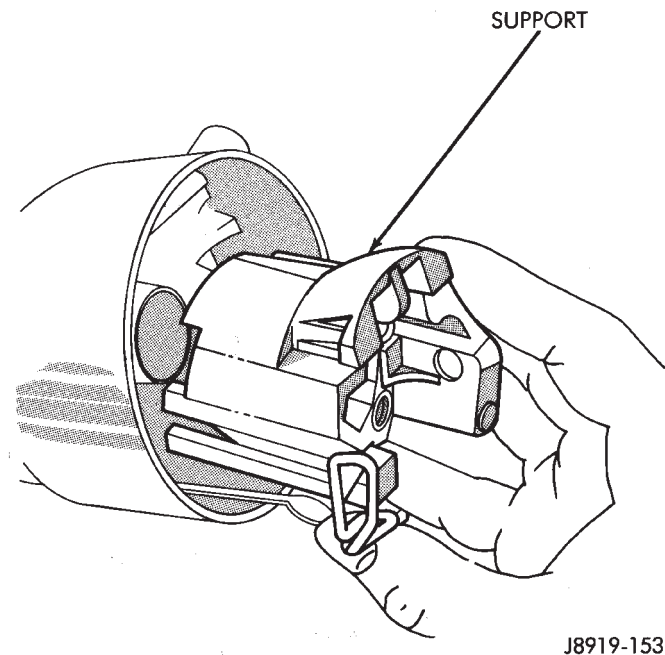

Fig. 17 Steering Column Support Removal
(39) Remove the attaching bolts and the steering column support (Fig. 17).